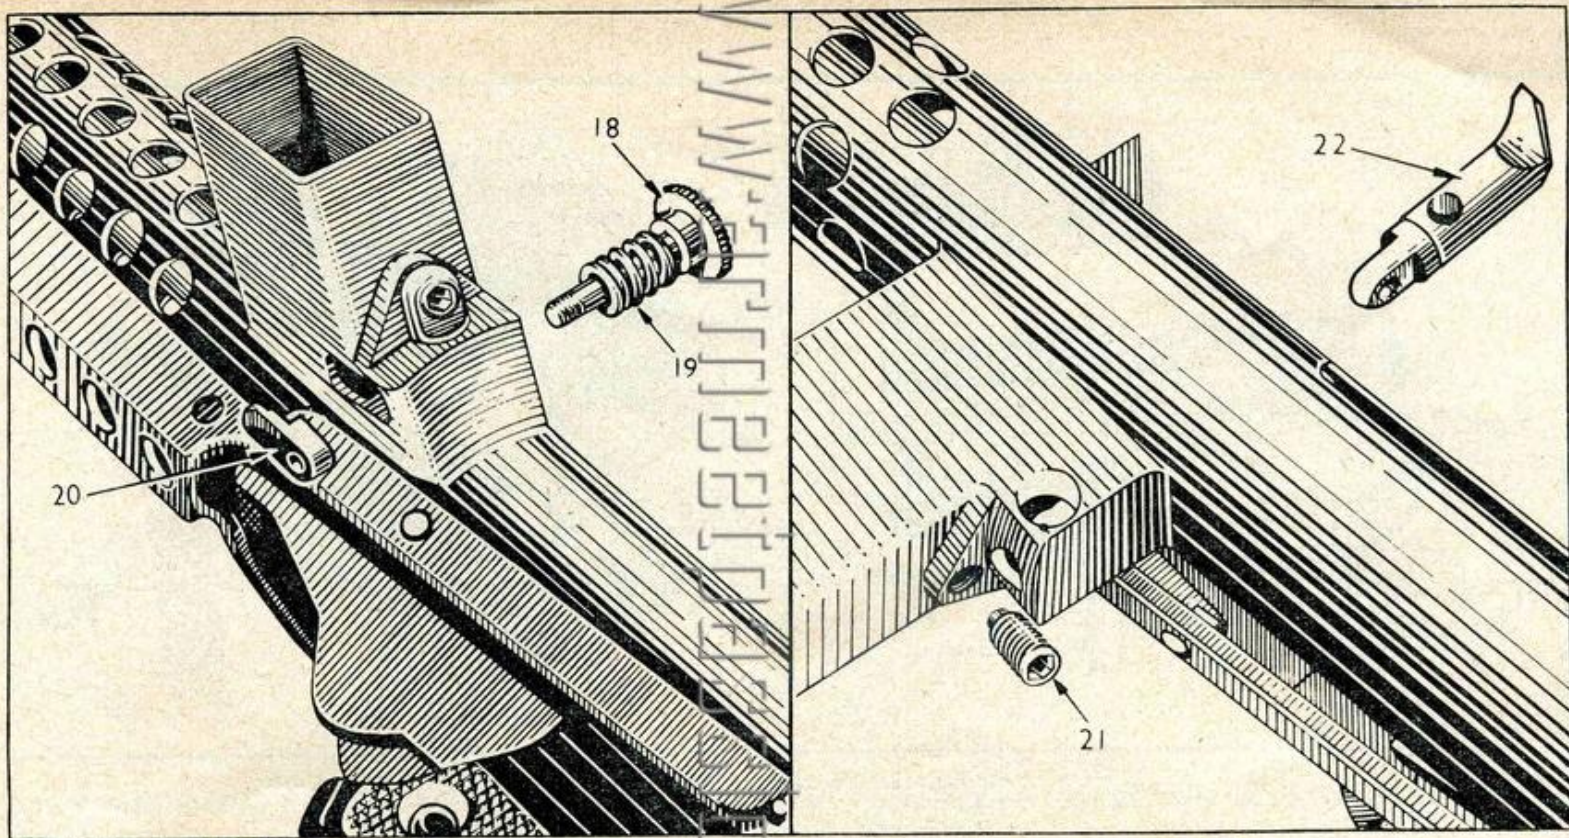

Fig. 12. To remove ejector
9.0 ADVANCED STRIPPING AND ASSEMBLY (Figs. 12, 13, 14, 15 and 16). **STRIPPING.**
9.1 TO REMOVE EJECTOR (Fig. 12). Using large screwdriver unscrew magazine catch screw (18), remove spring (19) and magazine catch (20). Using allen key remove ejector retaining screw (21). Tap out ejector (22) and remove through ejection opening in the body.